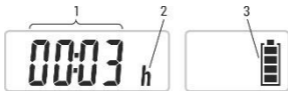

Figure 2.8 – LCD of the dosimeter (display of time spent in the SAA/ time left before leaving the SAA).
2.3.3.9.2 The following information is displayed on the dosimeter's LCD (Figure 2.8):